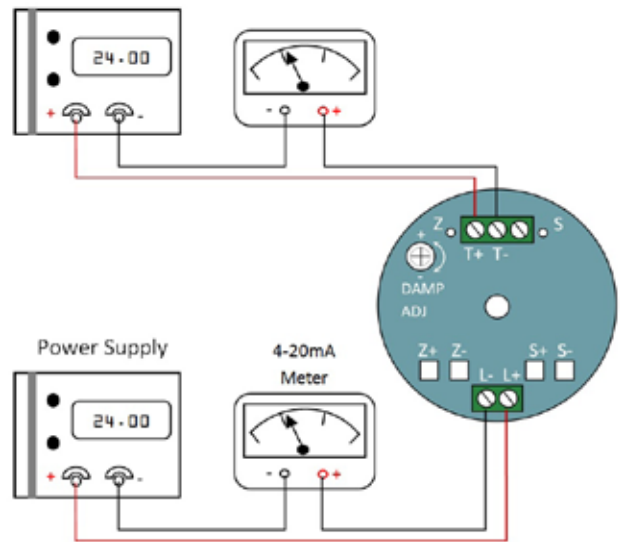

Fig. 4
5. Connect positive supply wires to the positive terminal of the transmitters. See Fig. 4.
- Fill the tank to its L1, some point below 100% level and record this level as L1. See Fig. 4. To determine the loop current at L1 level use the following formula: